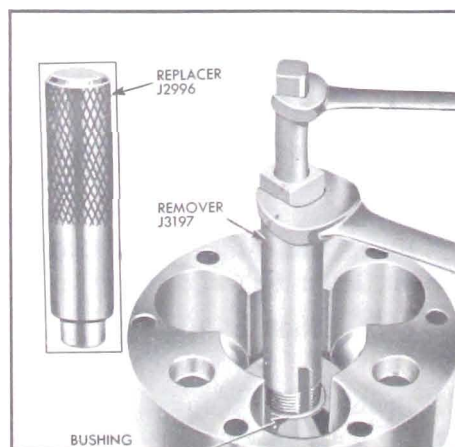

Figure 5-105—Replacing Planet Carrier Bushing
4. Inspect bushing in rear end of planet carrier, and replace it if worn or scored. The bushing may be removed with Bushing Remover J-3197 and new bushing may be installed, either end first, by using Bushing Replacer J-2996. See Figure 5-105. Reaming to size is not required.